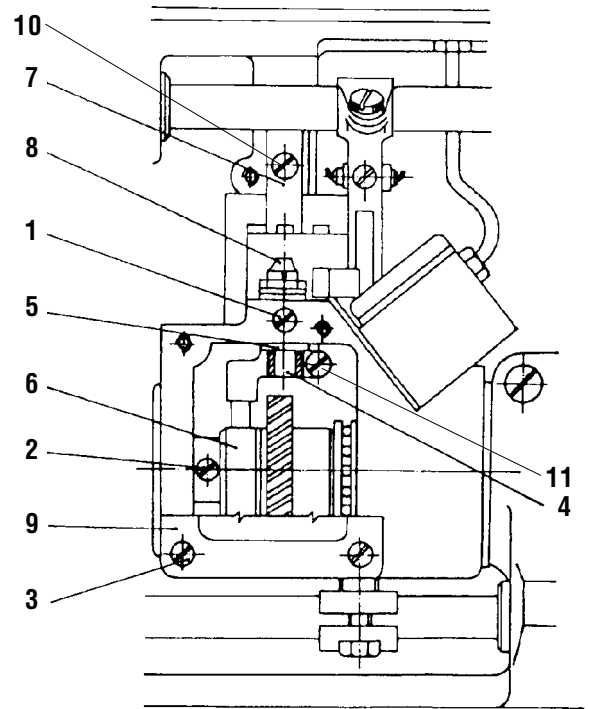

Fig. 12
13. Setting of the opening hook of the hook (Fig. 12, 13)